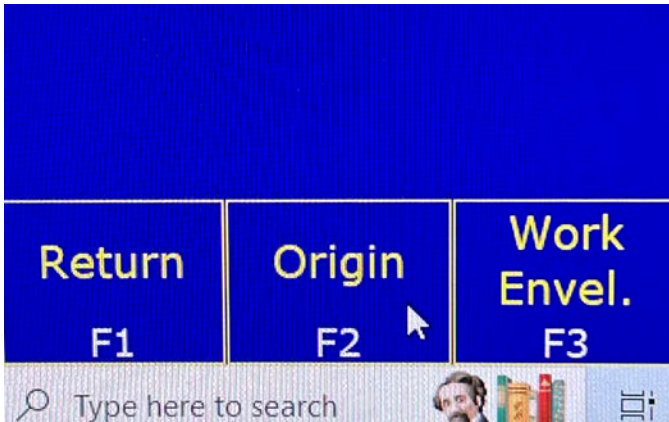

FIGURE 45
D. Click on Origin (see Figure 45).